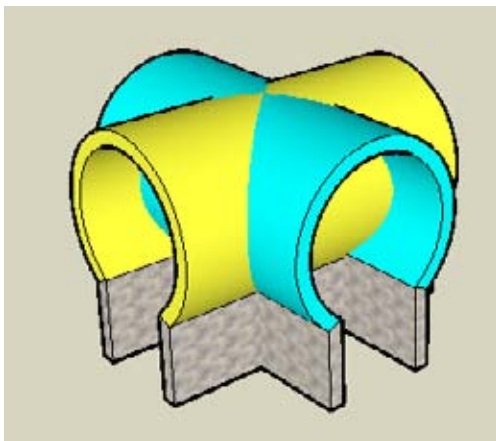

Figure 3-11
1. Start with a model like the one in Figure 3-11, with two arch forms that meet at their midpoints, at a 90-degree angle. You can create your model from scratch, or download my Intersecting Arches model from the 3D Warehouse.